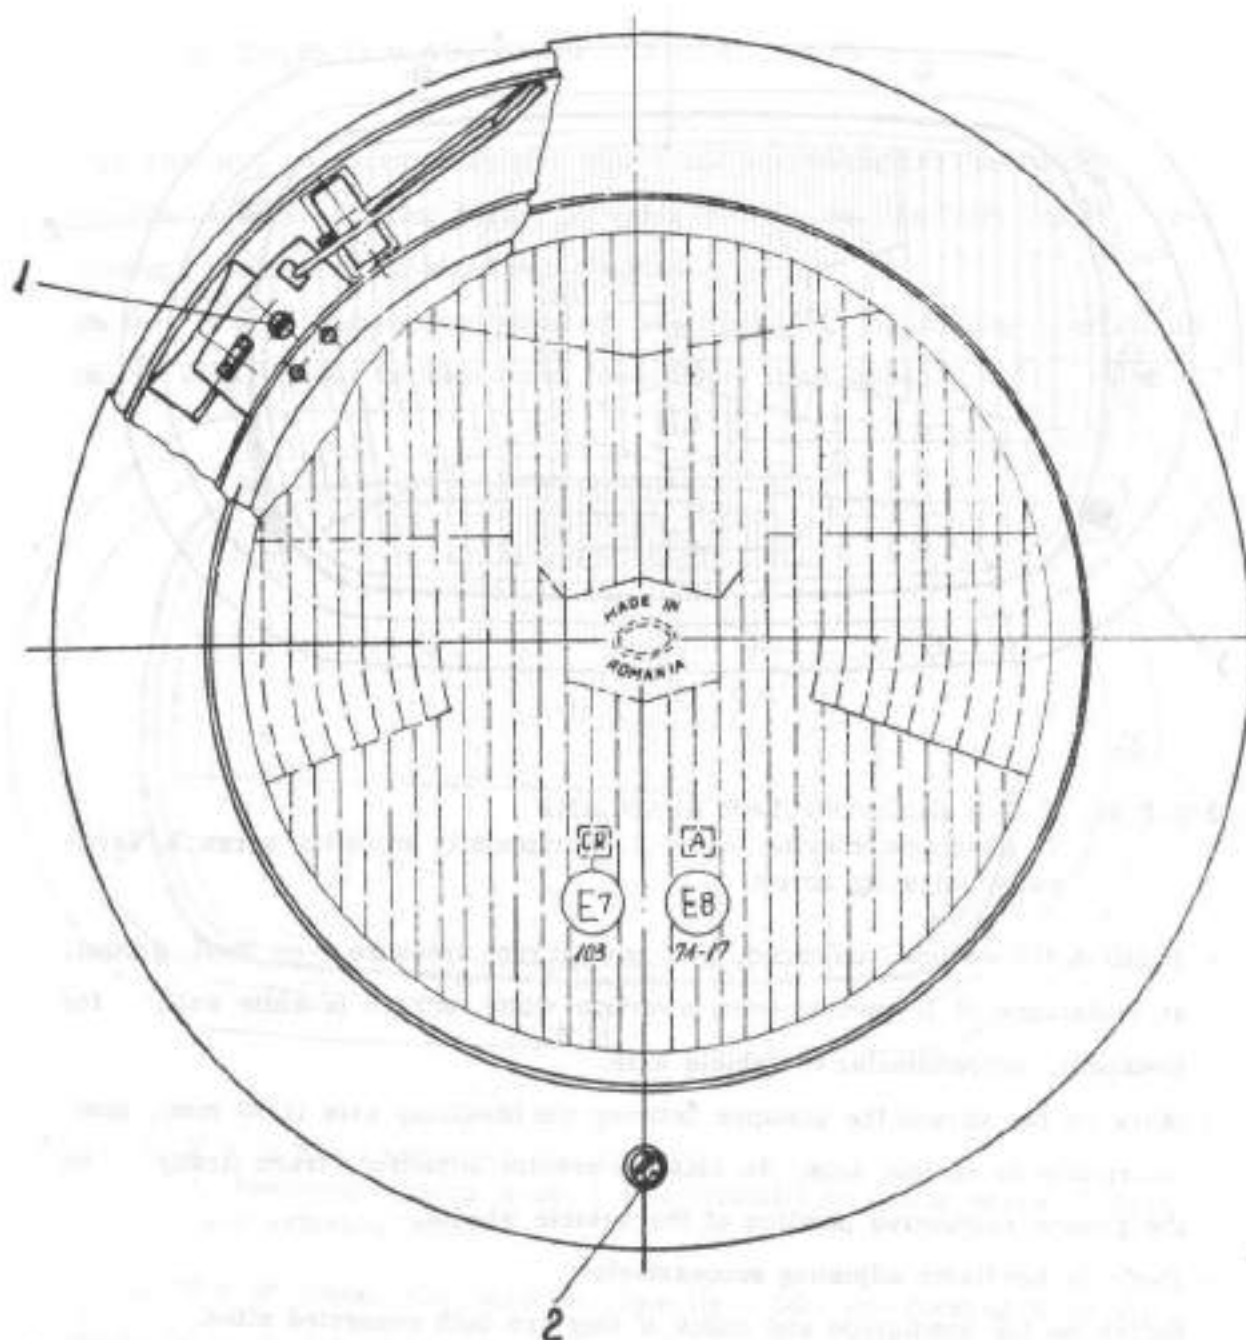

Fig.2.57. ROUND HEADLAMP
- The adjusting of the light beam direction, horizontally, upwards, is performed by turning the screw (2) (on the right side of the headlamps F A D and F E D or the screw (1), on the left side of the round headlamp (see fig. 2.57).